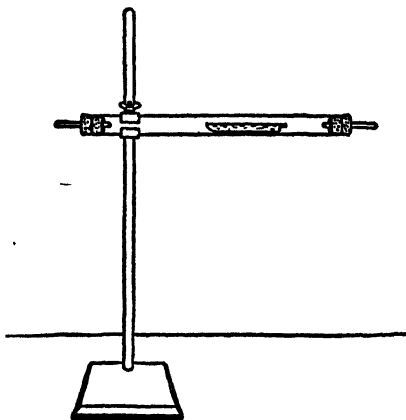

FIG. 15.
a. [Two students working together.] Fit a hard glass tube, 25–30 cm. long and open at both ends, with perforated corks and short glass tubes (Fig. 15). Support it on the ring-stand by means